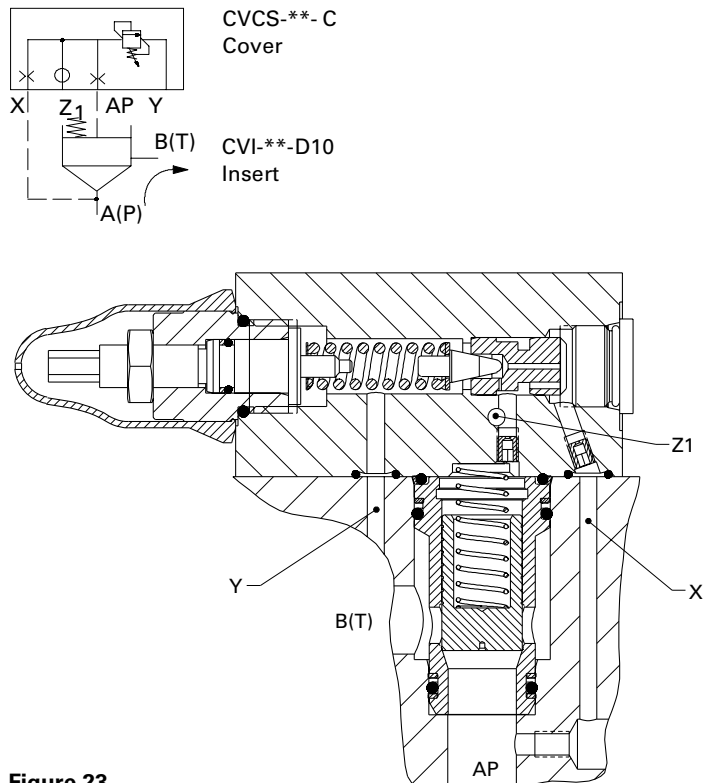

Figure 23
For stable valve operation follow Eaton-Vickers recommendations for selection of spring for each size of insert. See model code 5, page 43. Factory-fitted orifices in the covers are sized such that a given relief cover can be used with either insert type. Further fine tuning to suit particular system requirements can be achieved by changing orifice sizes. Operation of both types D10 and C10F is similar: System pressure at A(P), Figures 23 and 24, is determined by manual pilot adjustment. Orifices in AP and X ports dampen poppet reaction time, preventing instability. Connecting port Z1 to tank (via an appropriate remote control valve) vents the system pressure at port A(P) to a level equivalent to insert poppet spring load plus override pressure. See curves starting on page 45 for override pressure versus flow rate.